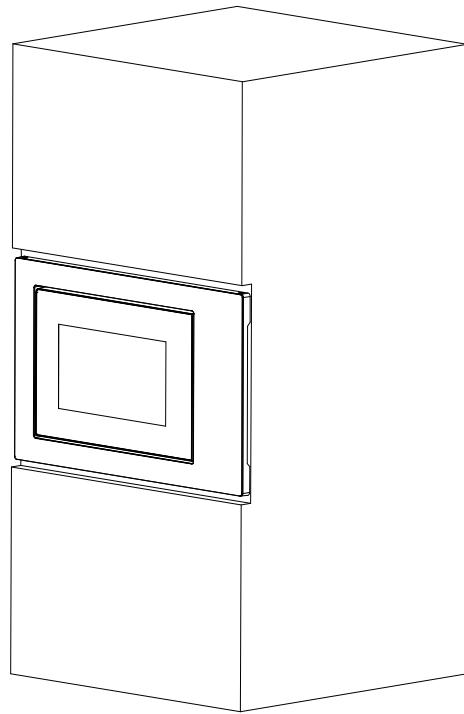

Fig.2
c) Push the microwave oven till to the end. (Fig.2)